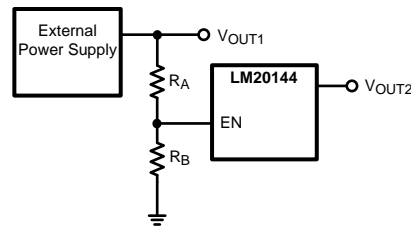

Figure 32. Sequencing LM20144 with Precision Enable
The precision enable (EN) and power good (PGOOD) pins of the LM20144 can be used to address many sequencing requirements. The turn-on of the LM20144 can be controlled with the precision enable pin by using two external resistors as shown in Figure 32.